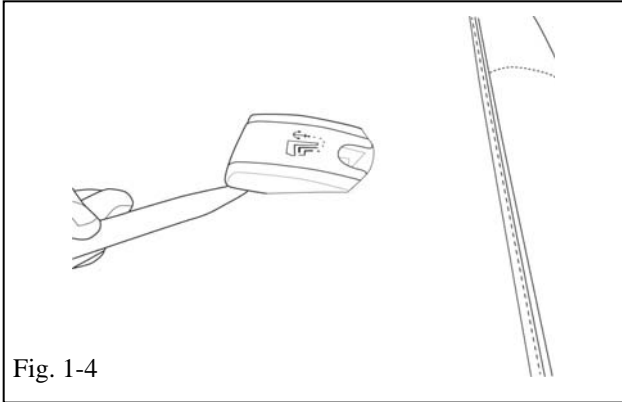

Fig. 1-4
- || (e) Attach the Cargo Liner to the backrest of the rear seats. Use a Trim Tool to maneuver the Cargo Liner around the Child Safety Anchor. On the right side, place the (2) openings for the child anchors over the top of the (2) Child Safety Anchors and slide the Cargo Liner down. Then place the opening over the bottom of the Child Safety Anchors and slide up into place. If the Child Safety plastic pops-up out of place just push it back down. (Fig 1-4)